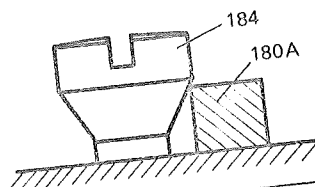

Fig. 47
5. Adjust phasing screw to proper pre-phasing position by turning screw *clockwise* until the top of the pawl bridge is lined up with the top of the angle of the phasing screw (Fig. 47)